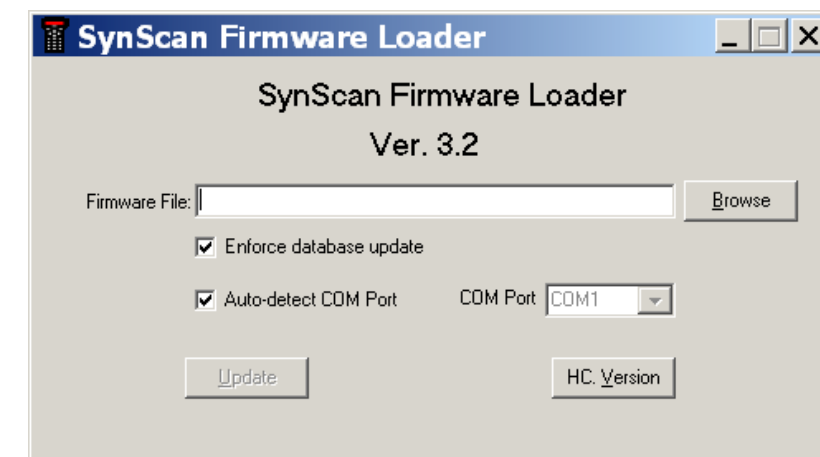

Fig. 10.3a
4. On the computer, run the SynScanFirmwareLoader.exe. An application window is show in Fig 10.3a.